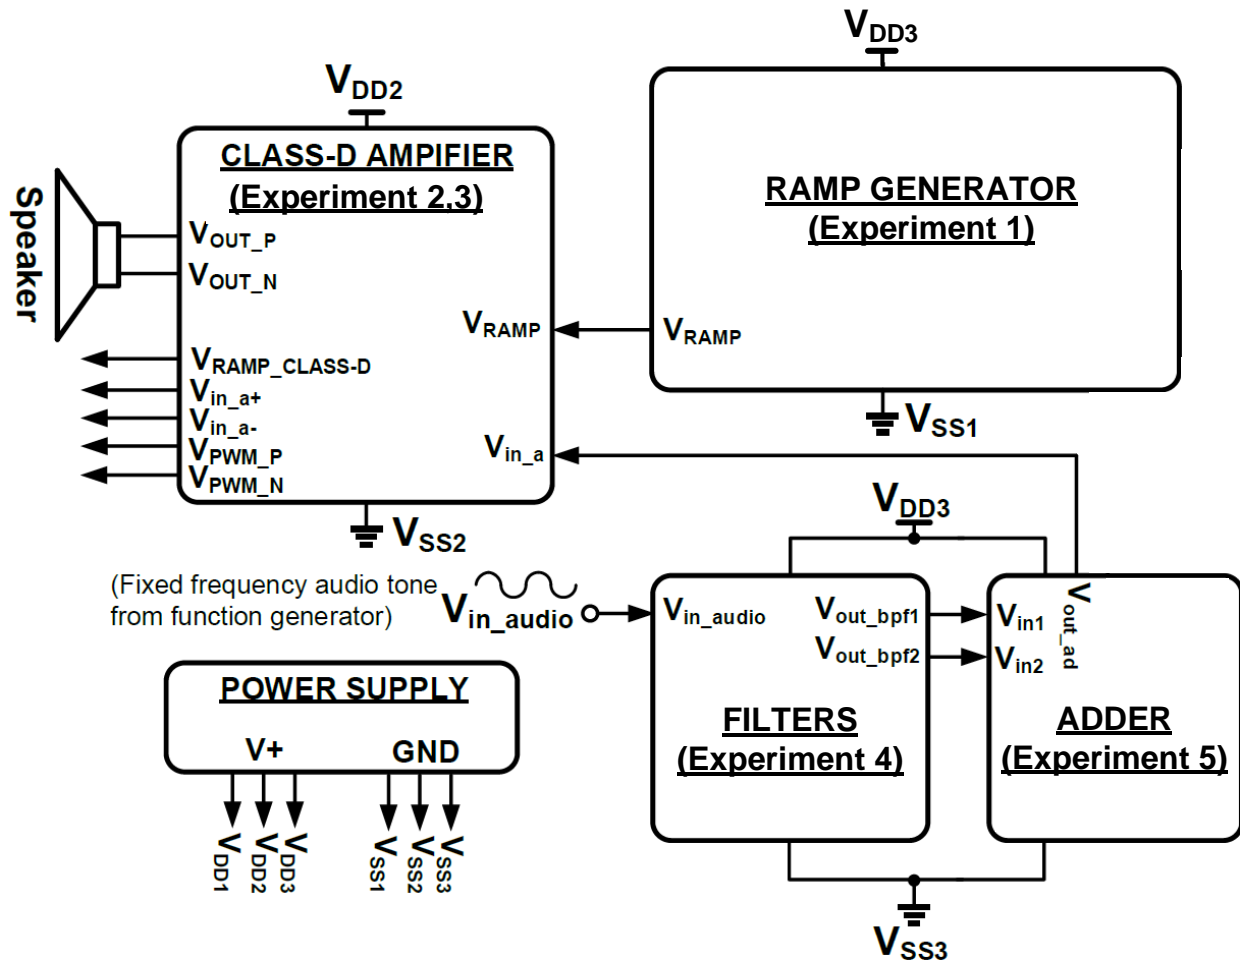

Figure 10 Block diagram of top-level integration.
Top level integration combines all the four modules (Class-D Amplifier, Filters and Adder designed during experiments 1-5) to build the complete system. Figure 10 shows the block diagram of the complete system after integrating all the modules.
3. Label all the signals shown in the block diagram of Figure 10 using a small piece of paper and tape. Wires connecting to these labelled signals should be brought out for measurement. Rest of the signals can be left inside the board.
3. Probe signals listed in Figure 10.